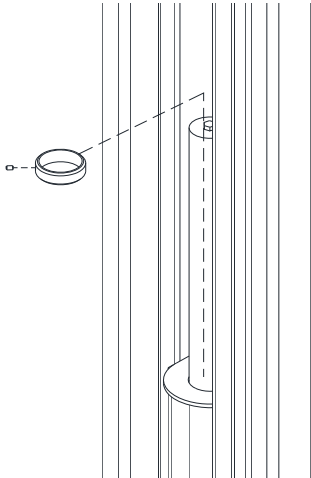

Fig. 24 – Cylinder Clamp Ring
- 61) Install Cylinder Clamp Ring to each cylinder as shown in **Fig. 24** using M6 set screw.